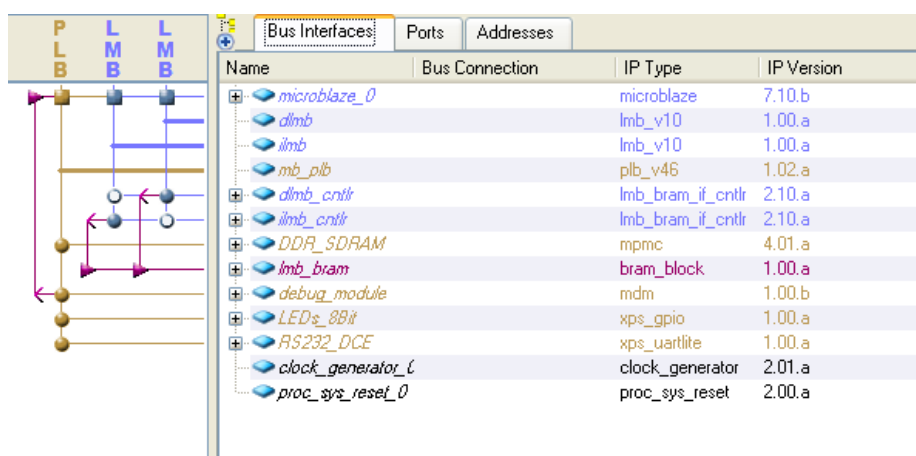

Figure 1-14. System Created Dialog Box
- ⑨ A System Assembly View1 will be displayed (**Figure 1-14**) showing peripherals and busses in the system, and the system connectivity.